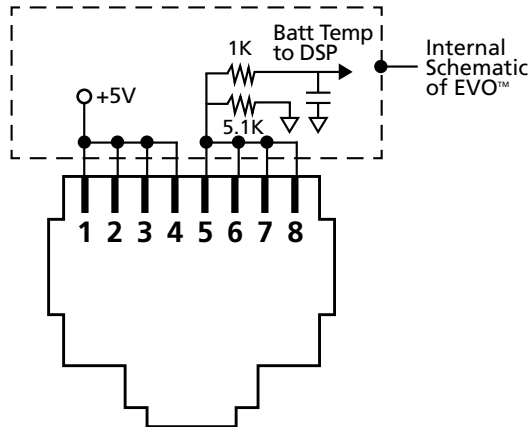

Fig 3.13 Pinout of RJ-45 Jack marked "Battery Temp Sensor" on the front panel of EVO™ [6 in Fig 2.1].
**RJ-45 Plug [*2 in Fig 2.5(a)*]:** The RJ-45 Plug is required to be plugged into the RJ-45 Jack marked "Battery Temp Sensor" on the front panel of EVO™ (*6 in Fig 2.1*). Pinout of the RJ-45 jack is shown in Fig 3.13.
Pinout of this RJ-45 Jack [marked "Battery Temp Sensor" on the front panel of EVO™ (6 in Fig 2.1)] is shown at Fig 3.13:
- o Connect to any of Pins 1/2/3/4 [Refer to Fig 3.13 for pinout of RJ-45 Jack. Pins 1 to 4 are internally shorted]
- o Connect to any of Pins 5/6/7/8 [Refer to Fig 3.13 for pinout of RJ-45 Jack. Pins 5 to 8 internally shorted]